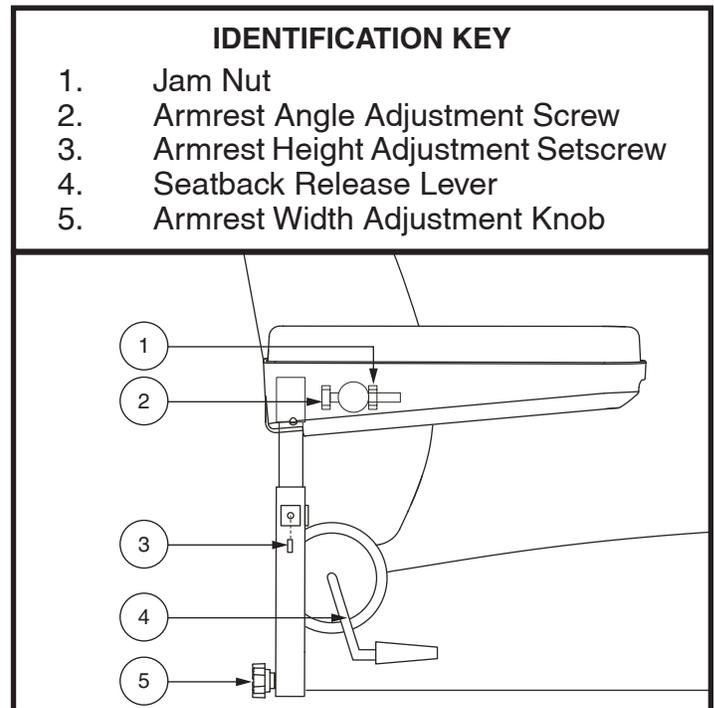

Figure 13. Seatback/Armrest Adjustment
If your scooter is equipped with a manual recline seatback, you can adjust the seatback angle up to 100° using the seatback release lever. See figure 13.
1. Locate the armrest width adjustment knob on each side of the armrest receiver bracket. See figure 13.
1. Loosen the setscrew on the armrest. See figure 13.